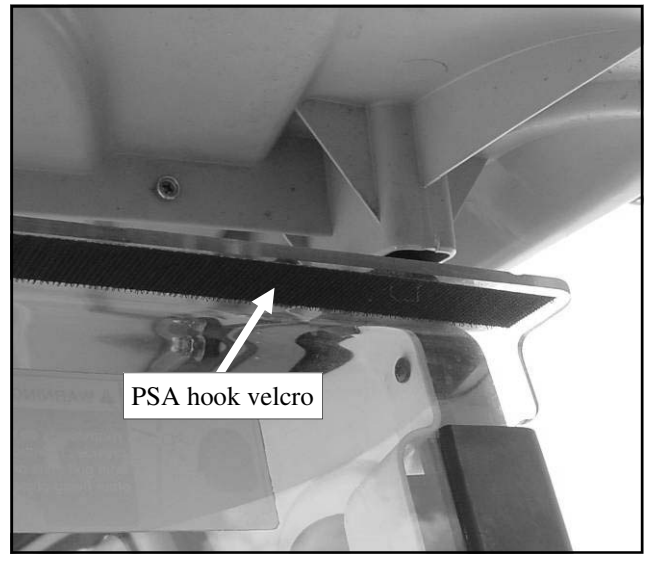

Fig. 3.5 (view from front)
3.5 Per fig. 3.5, install 1" wide PSA hook velcro to the under side of the upper windshield where shown (near the bend). Cover the full width from left to right. Ref.: 40" long.